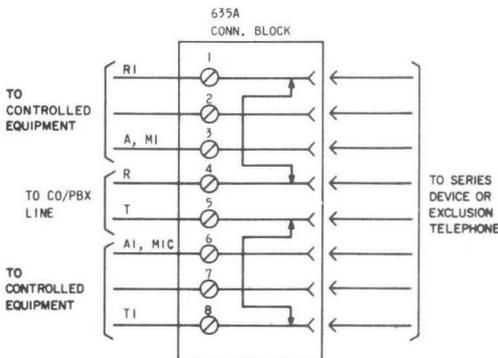

Fig. 11—Schematic Diagram, 635A (MD) Connecting Block
3.12 635A (MD) Connecting Block: Remove the cover from the block by loosening the screw in the center. Mount the block on a suitable vertical surface. Connect the line and control station leads (Fig. 11) to the screw terminals. Replace the cover. Connection of the series or excluded equipment is to be made by inserting the plug into the series jack.